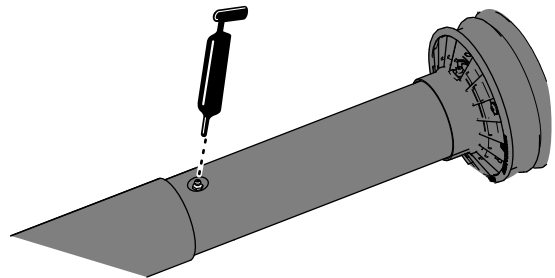

Figure 10
- Partially extend the PTO driveshaft to access the grease fitting near the middle of the inboard driveshaft guard (Figure 10).
- Apply grease to the grease fitting for the telescoping driveshaft joint as shown in Figure 10.